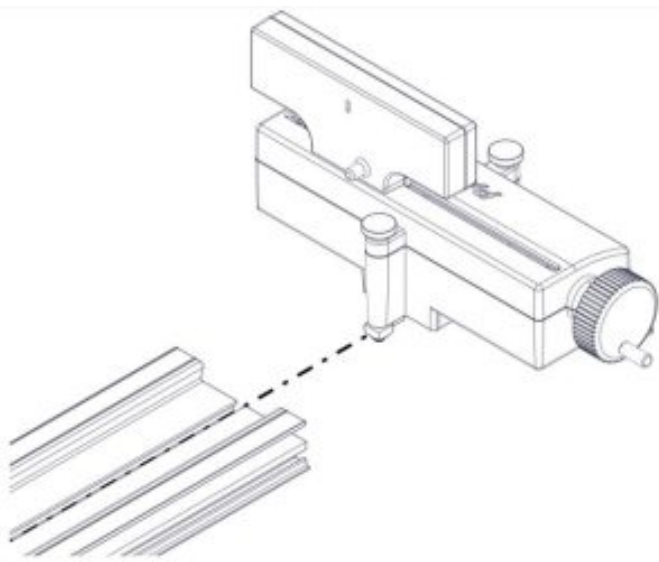

Figure 2. Inserting the Diffraction Scanner into an optics track.
2. Insert the square nuts into the center slot of the optics track with the aperture facing the track (Figure 2).